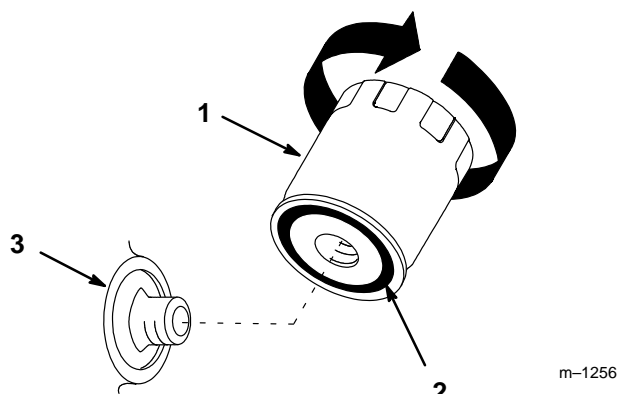

Figure 25
2. Remove the old filter and wipe the filter adapter (Fig. 25) gasket surface.
3. Apply a thin coat of new oil to the rubber gasket on the replacement filter (Fig. 25).
4. Install the replacement oil filter to the filter adapter. Turn the oil filter clockwise until the rubber gasket contacts the filter adapter, then tighten the filter an additional 3/4 turn (Fig. 25).